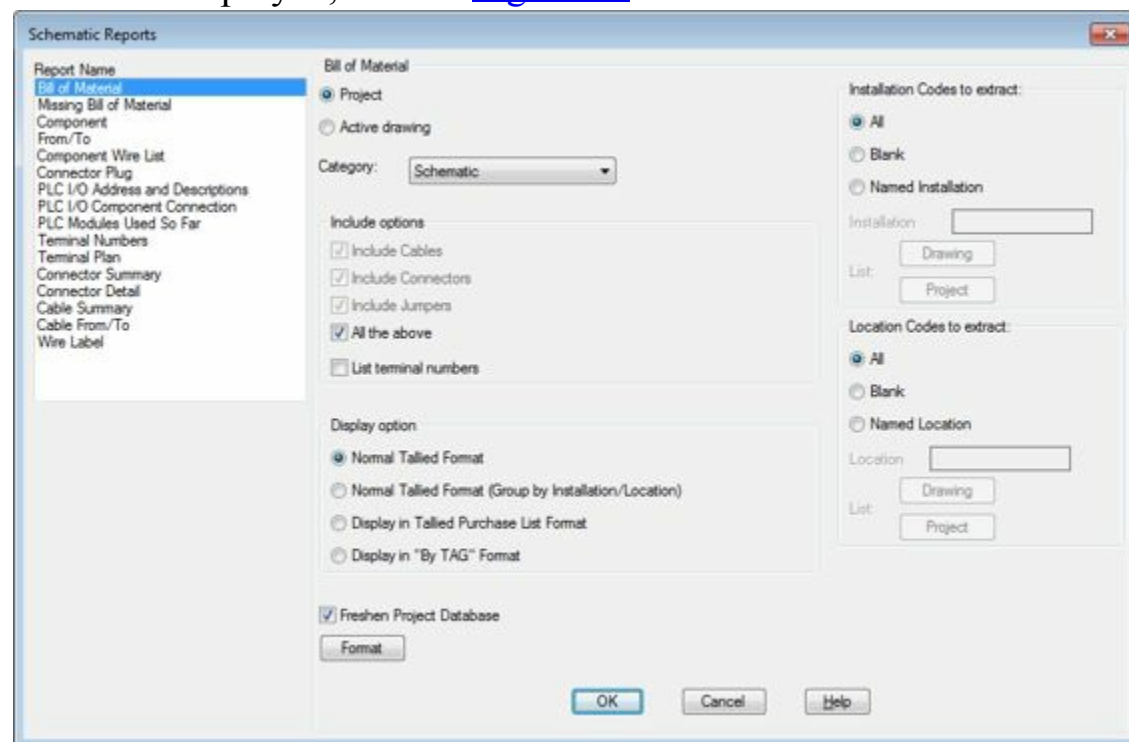

Figure-34. Schematic Reports dialog box
- Click on the **Reports** tool from the **Schematic** panel in the tab. The **Schematic Reports** dialog box will be displayed; refer to Figure-34.